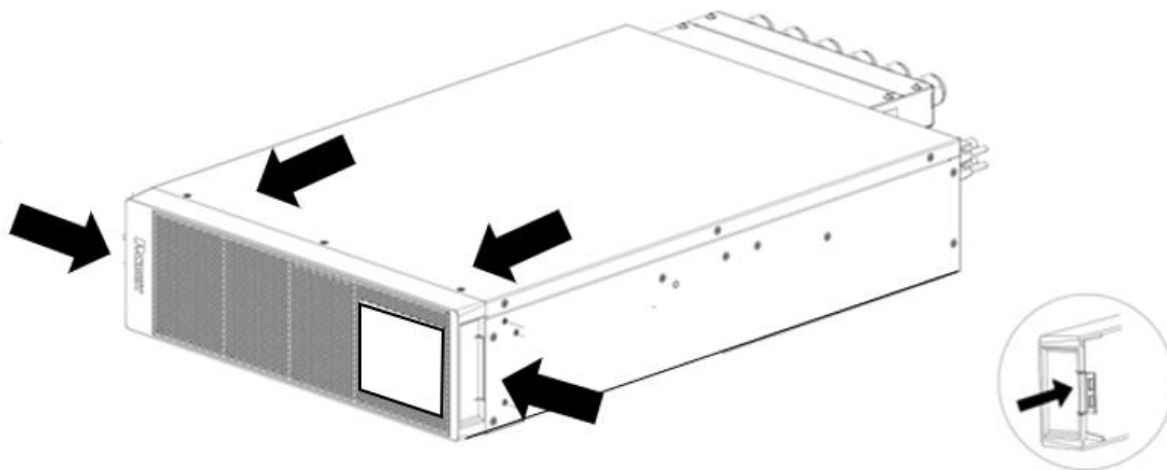

Figure 72: Press the Latches to Remove Faceplate
- i. Press both sides of EBP faceplate until the latches release (see Figure 72). Then remove the faceplate form the front of the unit.